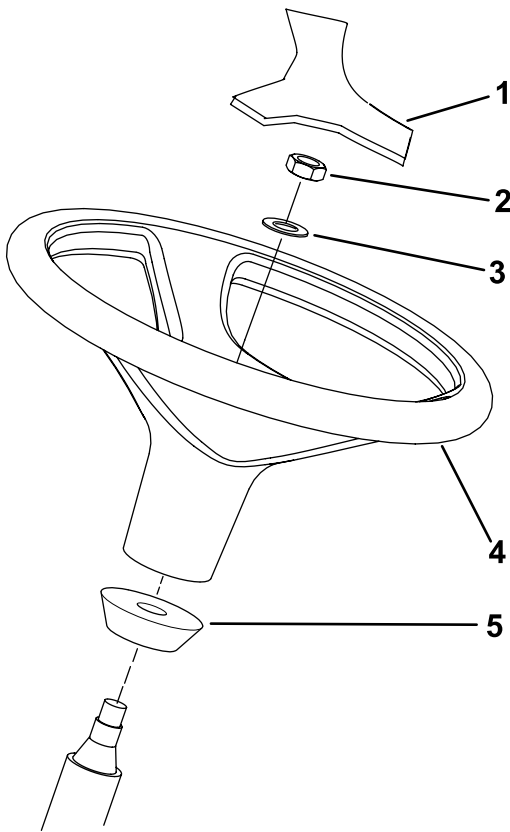

Figure 10
1. Remove the steering wheel from the shipping skid (Figure 10).
Note: Ensure that the foam collar remains on the steering shaft (Figure 10).
3. Slide the steering wheel and washer onto the steering shaft (Figure 10).
5. Mount the cover to the steering wheel (Figure 10).